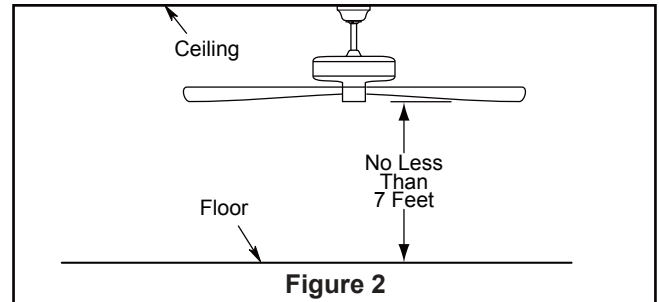

Figure 2
Deep box (Figure 2)
2. Remove the hairpin clip and clevis pin from the bottom of the downrod. Retain the pin and clip for reinstallation in Step 4. (Figure 2)
The fan must be hung with at least 7' of clearance from floor to blades. (Figure 2)
To avoid possible electrical shock, be sure electricity is turned off at the main fuse box before wiring. (Figure 2)